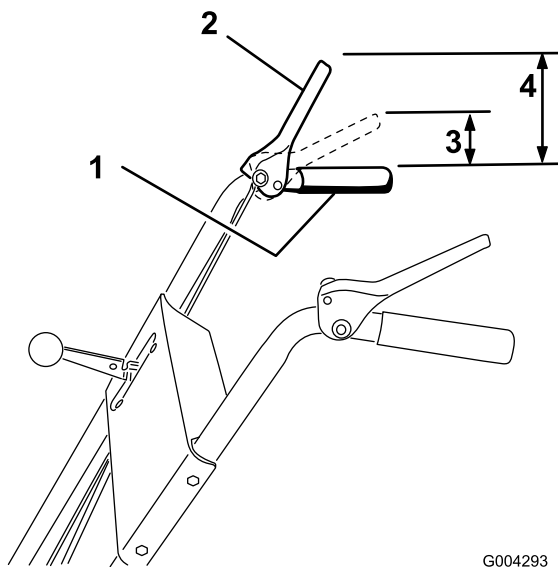

Figure 9
3. Check the distance between the top of the handgrip and the bottom of the auger/impeller drive control lever (Figure 9).
Note: The amount of force needed to compress the lever increases noticeably when you remove the slack from the auger/impeller drive belt (approximately 1/2 of the lever movement). The adjustment is correct when the force begins to increase and the distance between the top of the handgrip and the bottom of the auger/impeller drive control lever is 1 to 2 inches (3 to 5 cm) as shown in Figure 9.